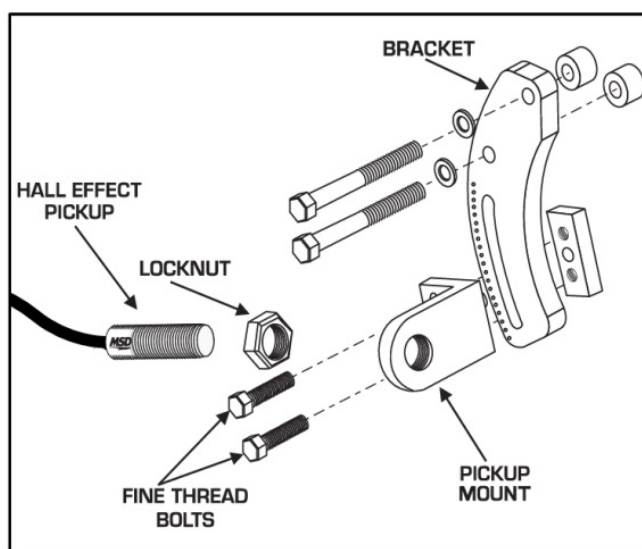

Figure 1: Pickup Bracket Assembly
1. Mount the pickup holder onto the bracket using the two fine thread bolts. (Figure 1) The pickup base will only install one way, do not try to force the bolts in, and hand tighten the bolts.